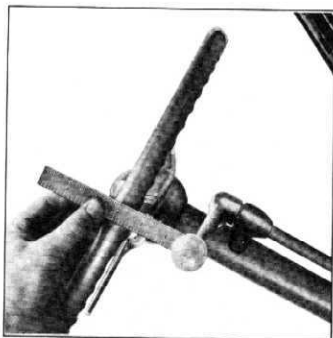

Fig. 4—Checking Gearshift Lever to Steering Wheel Clearance
5. Check clearance between gearshift lever and lower edge of steering wheel rim (fig. 4). This clearance should be $2\frac{3}{4}$ " + $\frac{1}{4}$ ".